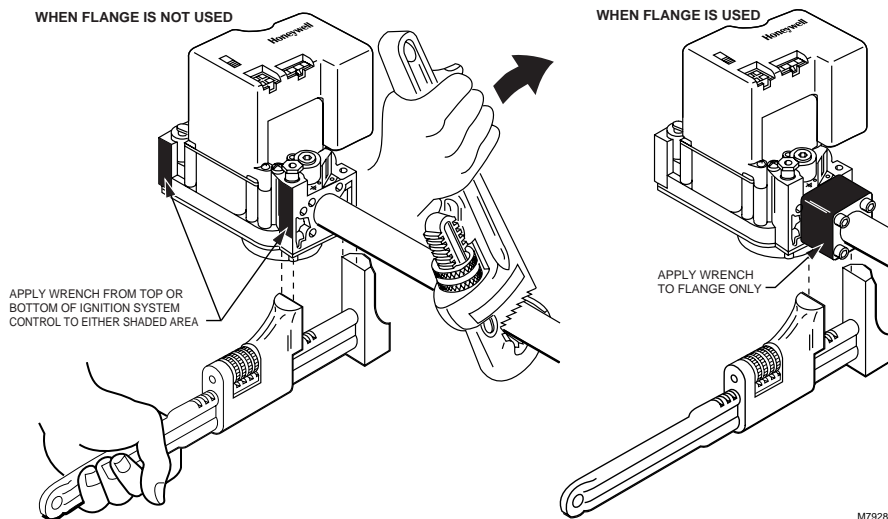

Fig. 5. Proper use of wrench on ignition system control with and without flanges.
6. Connect the pipe to the ignition system control inlet and outlet. Use a wrench on the square ends of the ignition system control. If a flange is used, place the wrench on the flange rather than on the ignition system control as shown in Fig. 5 and 6.